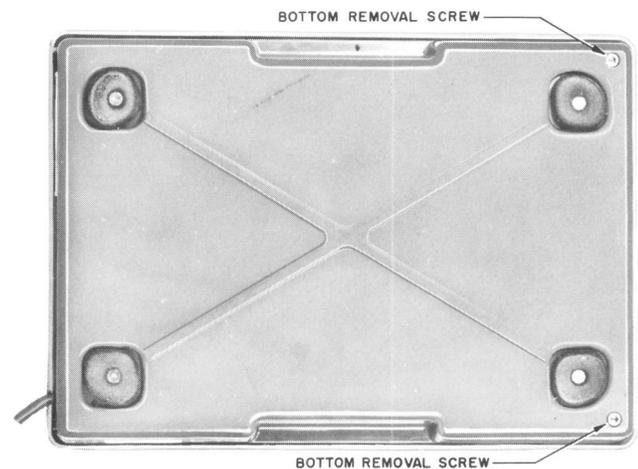

Fig. 1 — Location of Bottom Removal Screws
2. Remove operate (O) button by loosening lockscrew on underside.
3. Loosen the two hex head socket set screws in the back edge of base and the two hex head socket captive screws near the front edge of the bottom of base (see Fig. 1 and 2).